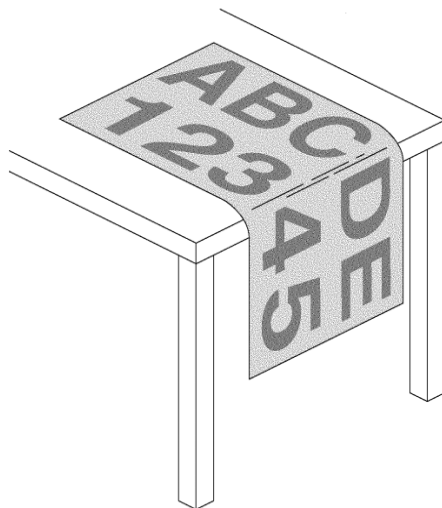

Figure 1. Loosening Prespaced Graphics from a Liner
7. If the prespacing tape does not remove all of the prespaced cut graphic parts easily from the liner, reapply the tape using a squeegee to secure the elements back to the liner. Then gently pull the graphic, liner-side down, over the corner edge of a surface. This helps loosen any embedded kiss cut edges. See Figure 1 below.